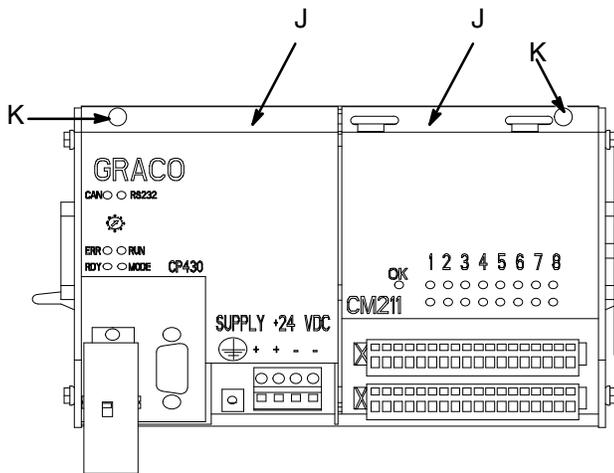

Fig. 17
4. Remove the screws (K) from the modules (J) between the removed end plate and the module being replaced. See Fig 17.
7. Secure the modules with the screws (K).